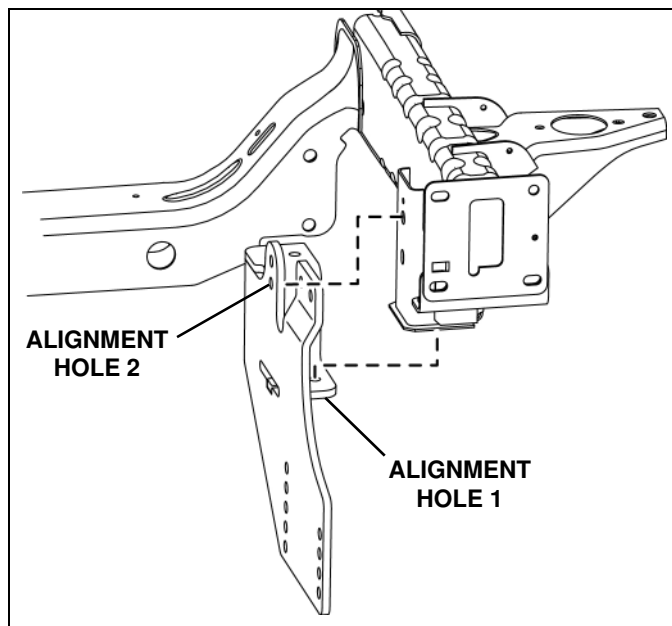

Figure 2
3. Install Side Weldment, DS (#2) to the inside of the driver side vehicle frame rail. Align the two holes pointed out in figure 2 on item (#2) with the Tow Hook hole and side hole in the truck frame. (See Figure 2)